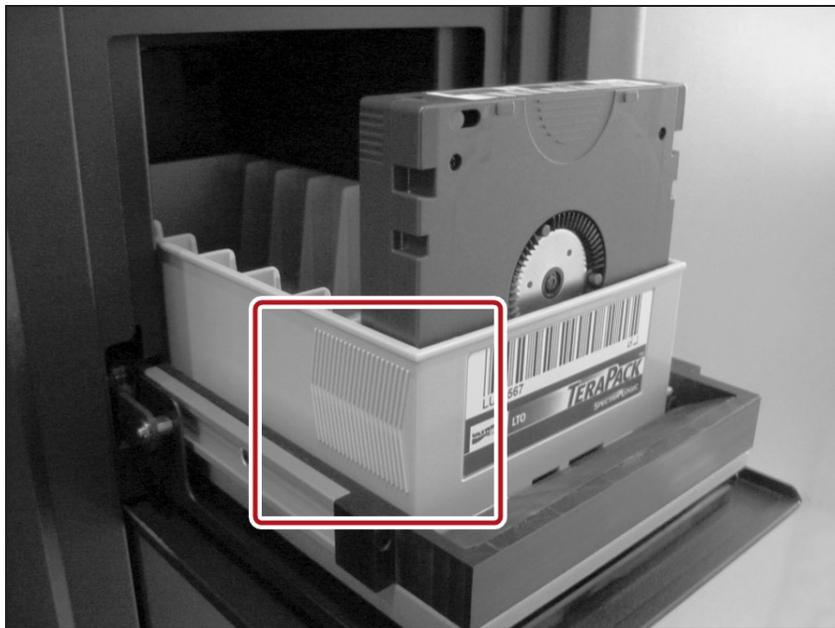

Figure 263 Insert a magazine into the TAP, making sure that it is correctly oriented.
- a. Insert a magazine into the tray on the open TAP, making sure that it is oriented with the textured surface on each side toward the outside of the library, as shown in Figure 263 on page 344.
- a. Insert a magazine into the tray on the open TAP, making sure that it is oriented with the textured surface on each side toward the outside of the library, as shown in Figure 263.